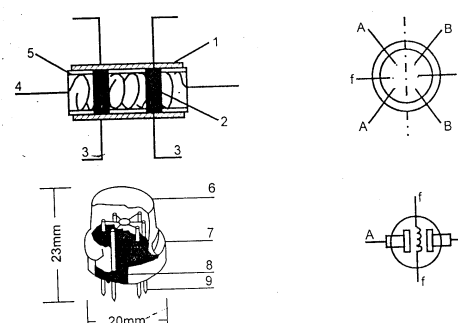

Fig3
5. HS-135 structure and circuit symbols(Fig 3).